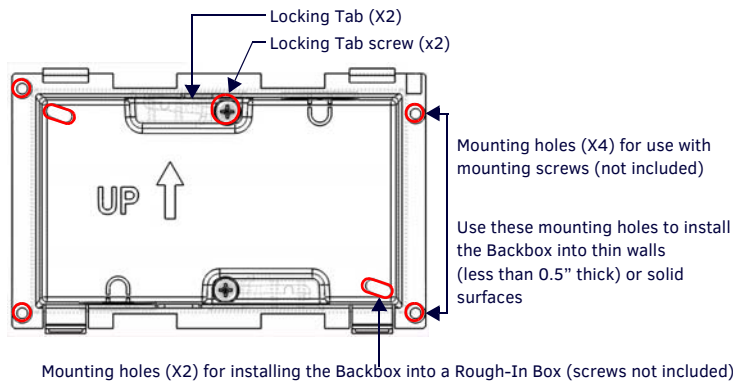

FIG. 2 4.3" MODERO S BACKBOX (FRONT VIEW)
The MSD-431-L comes with a clear plastic Backbox (FIG. 2). This Backbox can be used to mount the touch panel into most standard wall materials. The Backbox can also be used to mount the panel into other mounting options.
- To ensure a stable installation, the thickness of the wall material must be a minimum of .50 inches (1.27cm) and a maximum of .875 inches (2.22cm). The mounting surface should also be smooth and flat. For thin walls or solid surfaces, use mounting screws (not included) - see FIG. 2.